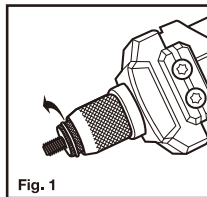

Fig. 1
2. Remove nosepiece from sleeve nut by unthreading the nosepiece anticlockwise. (see Fig.1)